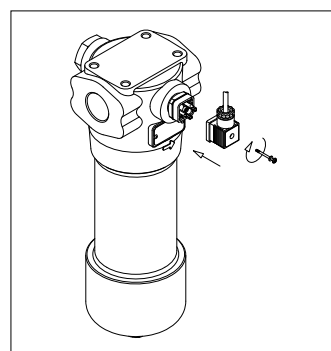

fig. 16
- (Fig. 16) Insert the connector by fastening the central screw (only for electrical indicators)